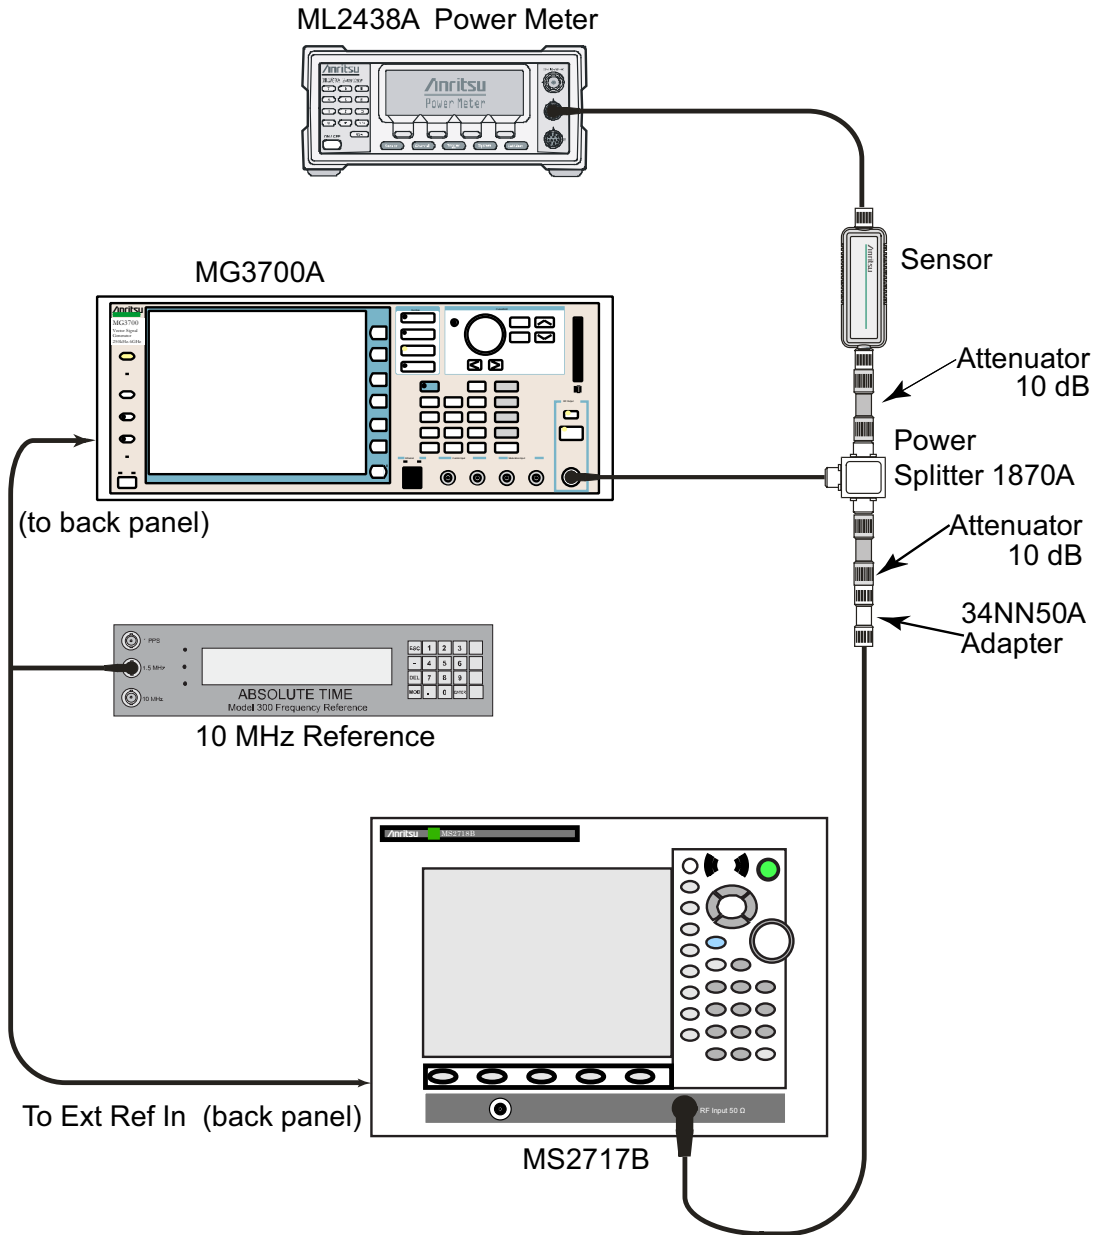

Figure 3-9. Mobile WiMAX Signal Analyzer Option Verification
4. Connect the Power Sensor, 1870A splitter, 10 dB attenuators (quantity 2), as shown in Figure 3-9 on page 3-33.